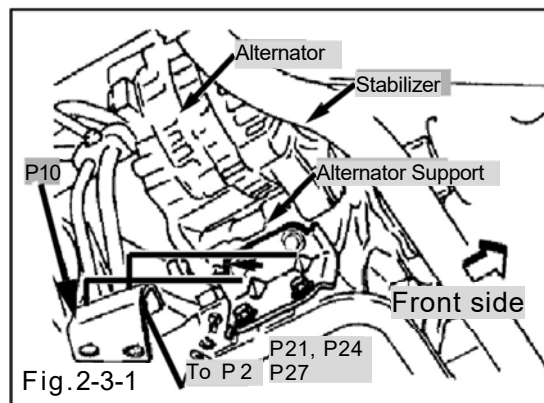
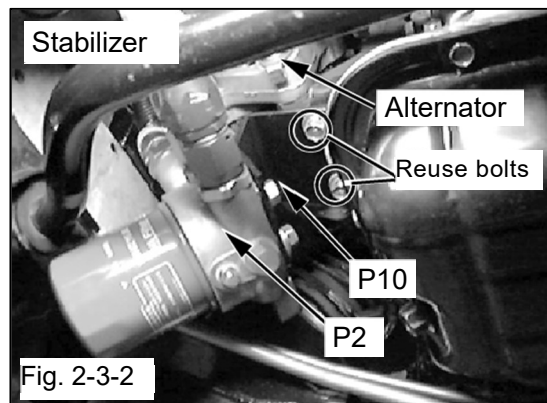

Fig.2-3-1
Fig. 2-3-2
- (1) Temporarily install the Oil Filter Mount to the Oil Filter Mount Stay. (Fig. 2-3-1, Fig. 2-3-2)
- (2) Fasten the Oil Filter Mount Stay to the alternator support. (Fig. 2-3-1, Fig. 2-3-2)